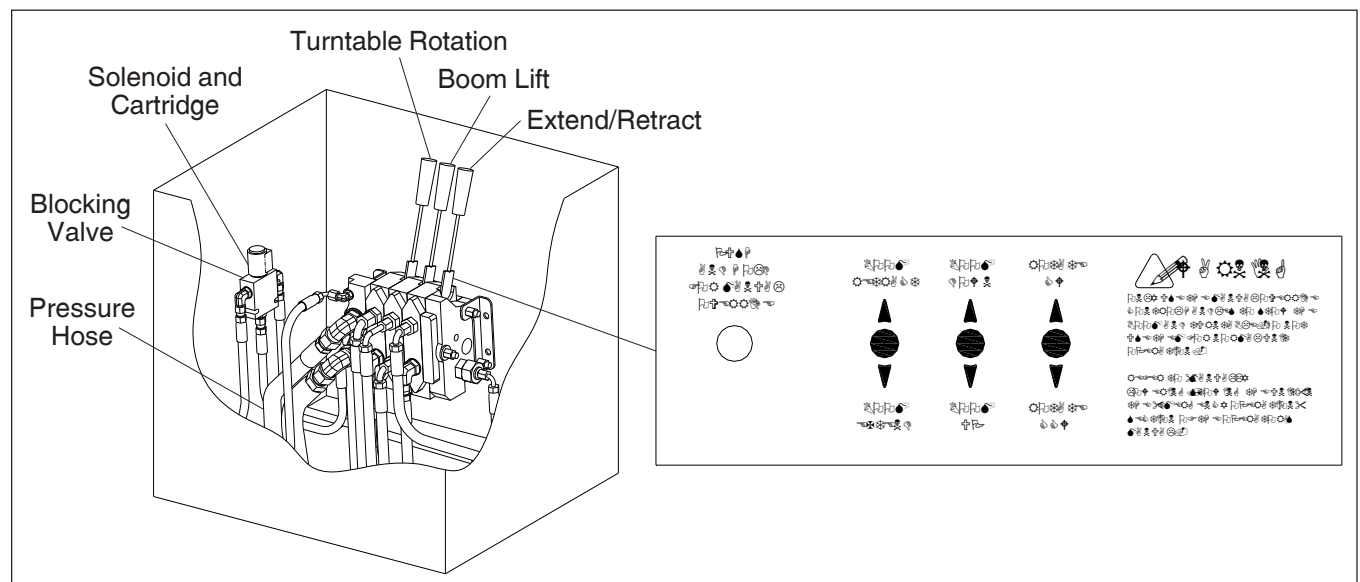
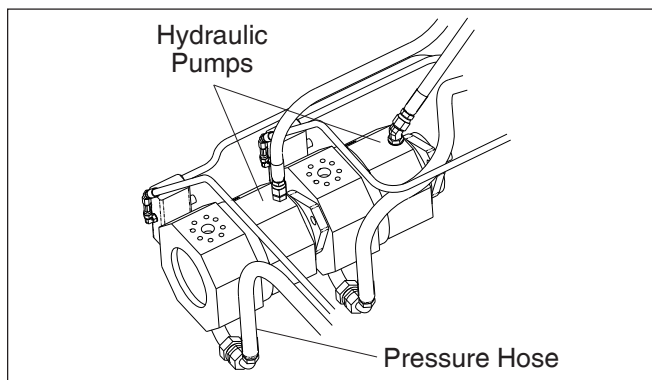

Figure 6.1 — Boom Control Valves
Figure 6.5 — Hydraulic Pump
Upon determining that it is safe to touch the vehicle, manual valve controls can be used to position the boom and turntable. A placard located adjacent to the boom function control valve indicates the function of each manual valve handle (refer to Figure 6.1).
The boom function control valve is in the valve box located to the right of the joystick seat on the operator's platform. The boom function blocking valve (refer to Figure 6.1) is located inside the valve box on the wall adjacent to the back of the vehicle. The manual control handles may be shifted in two directions. When the manual control handles are centered, they are in neutral.
1. Open the boom function blocking valve by pressing and holding the push button switch (refer Figure 6.1) indicated on the placard inside the valve box.
2. Locate the pressure hose that runs from the pump to the boom function valve that is located in the valve box shown in Figure 6.1. Disconnect the pressure line from the hydraulic pump (refer to Figure 6.5), and plug the pump outlet.